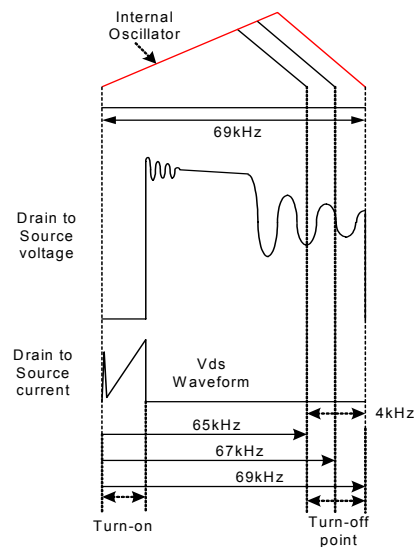

Figure 11. Frequency Modulation Waveform
**7. Frequency Modulation :** EMI reduction can be accomplished by modulating the switching frequency of a switched power supply. Frequency modulation can reduce EMI by spreading the energy over a wider frequency range than the band width measured by the EMI test equipment. The amount of EMI reduction is directly related to the depth of the reference frequency. As can be seen in Figure 11, the frequency changes from 65kHz to 69kHz in 4ms for the FSDM0365RN. Frequency modulation allows the use of a cost effective inductor instead of an AC input mode choke to satisfy the requirements of world wide EMI limits.